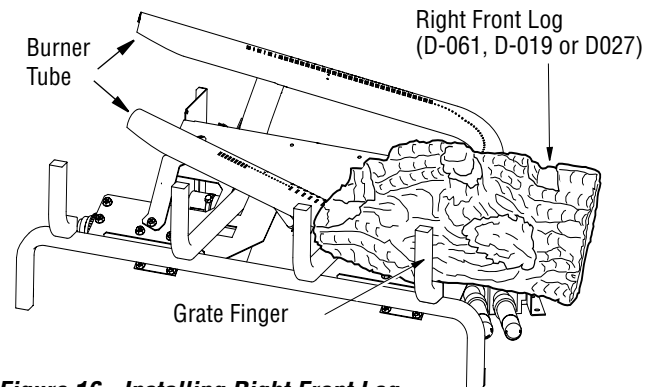

Figure 16 - Installing Right Front Log
1. Find the right front log (LMF24GTA/B or LMF24MOA/B models: D-061, LMF30GTA/B or LMF30MOA/B models: D-019, LMF36GTA/B or LMF36MOA/B models: D-027). See **Figures 16, 16A, 16B, and 16C** for reference. The log has a rectangular shape on the bottom that fits against the lip on the black metal base, the square grate, and the round tube burner. Slide the log in place as shown in figures.